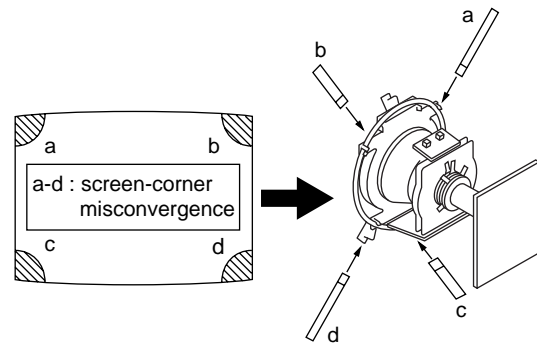

Fig.3-8
2. Fix the deflection yoke to insert the wedge to the picture tube funnel and the deflection yoke. (Fig.3-8)